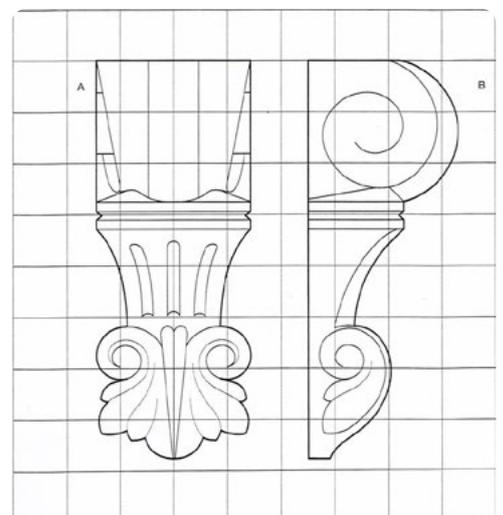

Figure 1.
1. To begin this project, first photocopy or redraw the illustration in Fig 1 to scale and use the drawings to produce stencils. **Picture 2.**
3. Ensure the block of timber is prepared so that it is square and clean. Now select the best face side and face edge, and mark them with the appropriate symbols. Then placed the stencil formed by **Figure 1 A** onto the 'face-side', mark around the edge and cut out the profile as accurately as possible. **Picture 3**. If you have access to a bandsaw, you will find this the quickest and easiest method of cutting the blank.
4. After cutting the first profile of the corbel, place the stencil formed by **Figure 1 B** onto the 'face-edge'. Draw around the stencil and carefully cut the shape. **Picture 4 & Picture 5**.